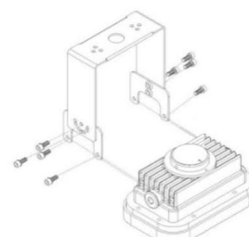

Figure 4
- Position the bracket holders and fix it by means of the provided M6 screws, 24.5 kgf-cm. (Figure 4)